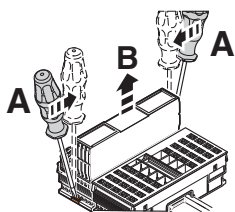
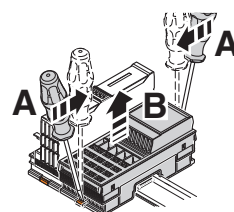

Figure 6-7
Figure 6-8
- Insert a suitable tool (e.g., bladed screwdriver) in the upper **and** lower snap-in mechanism (base latches) of the module one after the other and unlock it (Figure 6-7, Figure 6-8, A). The base latches are locked in place in the open position.
- Remove the electronics module **vertically** to the DIN rail (Figure 6-7, Figure 6-8, B). The base latches return to the idle position again.